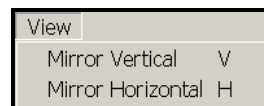

Figure 43. View Menu in the Adding/Editing Group Dialog
As shown in Figure 43, the **View** menu on the **Adding/Editing Group** dialog contains two (2) choices. Each item is explained below.